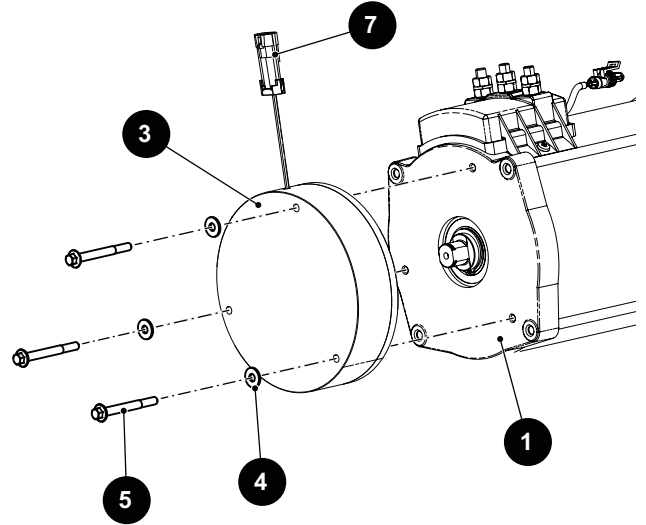

Fig. 1 Motor Brake
2. Disconnect the harness from the motor brake connector (7).
3. Remove the three bolts (5) and washers (4) securing the motor brake (3) to the motor (1).
4. Remove the motor brake (3).
5. Make sure to retain the gasket (2) for reassembly or replace it if it is damaged (Ref. Fig. 1).